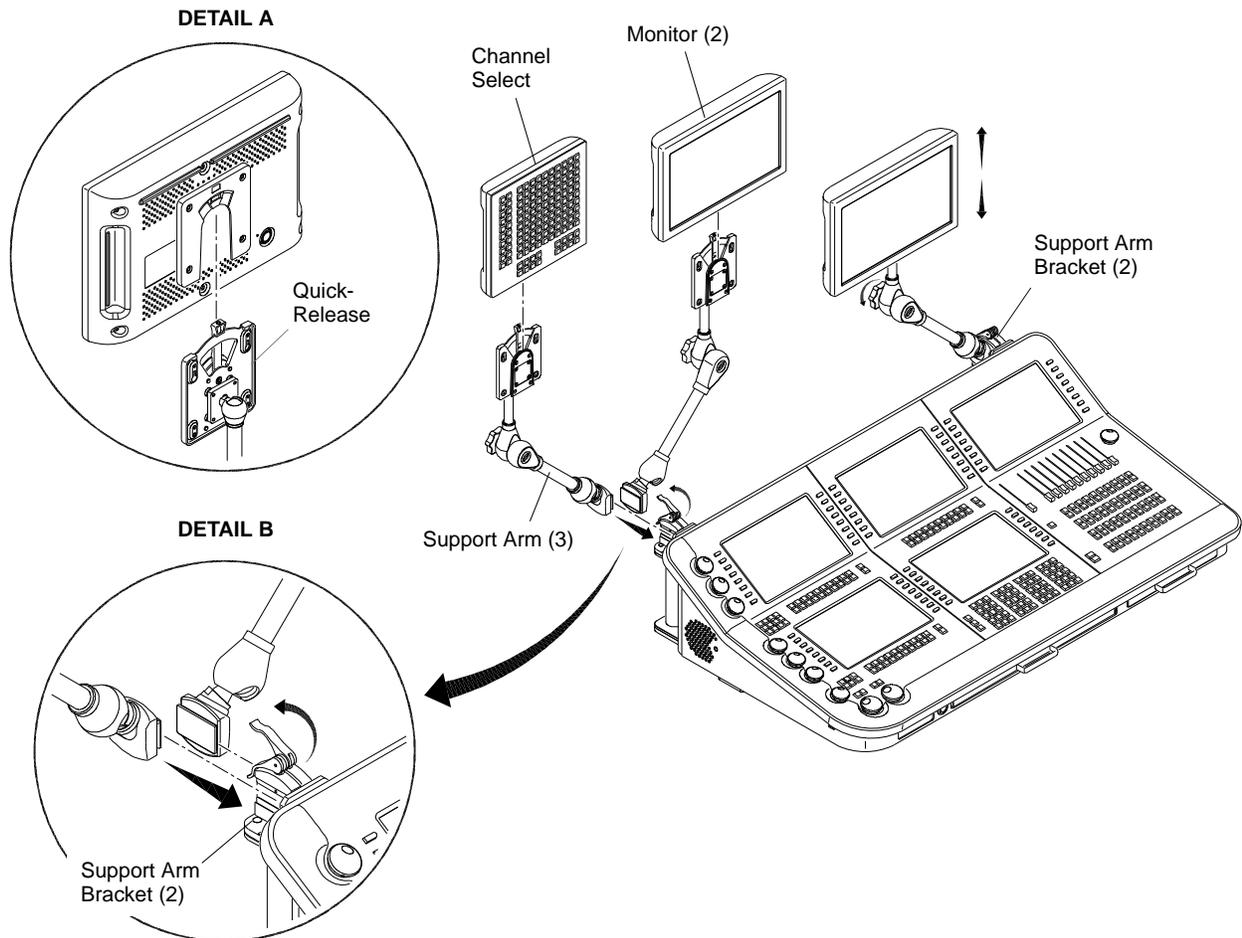

Figure 5: Installing Channel Select Panel and Monitors on V676 Console (Optional)
**Note:** The console supports up to two (2) external monitors (optional). This can be two PRG-provided monitors, two user-provided monitors, or a combination of one each. In any case, only two external monitors should be installed.
Step 3. At rear of console, install one support arm for each external monitor/panel, as shown in Detail B of Figure 5.
Step 4. Slide monitor/panel onto support arm quick-release connectors as shown in Detail A of Figure 5.